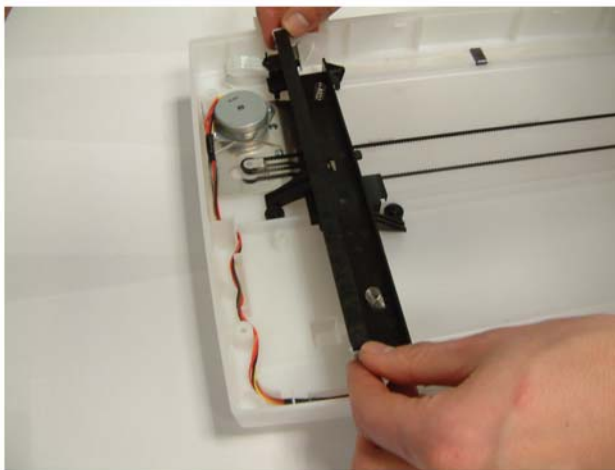

Figure 1
1. Lift the CIS backwards, Figure 1.